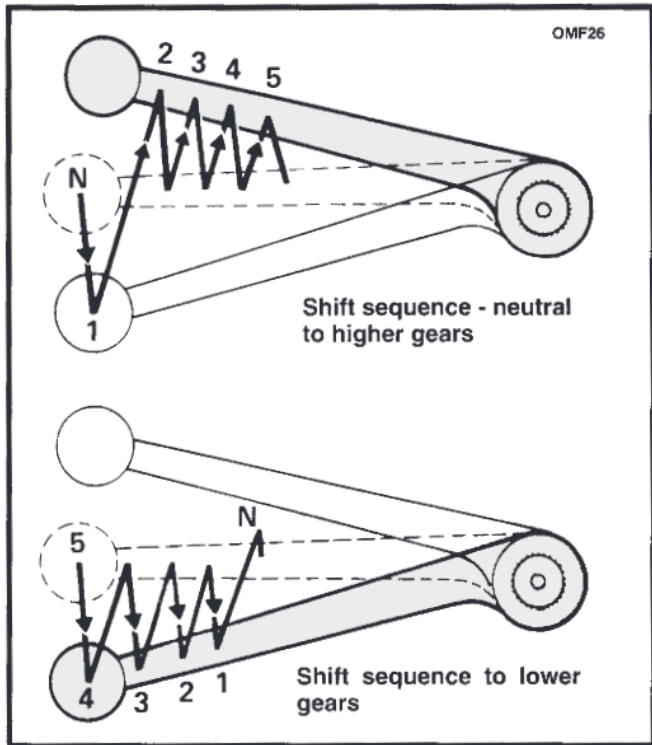

Figure 29. 5 - Speed Shifting Sequence
See Figure 2. To start moving with motorcycle upright and engine idling, pull the clutch lever (6) to fully disengage clutch. See Figure 29. Push shifter lever down firmly, but gently, to end of its travel to engage first gear. Then release the clutch lever slowly to engage the clutch and at the same time, open throttle gradually.